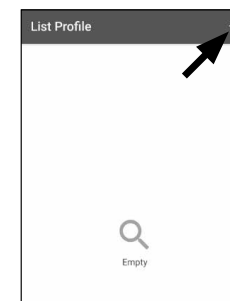

Fig. 9
- 7 Add a new cylinder by tapping on the "+" in the top right-hand corner (Fig. 9).